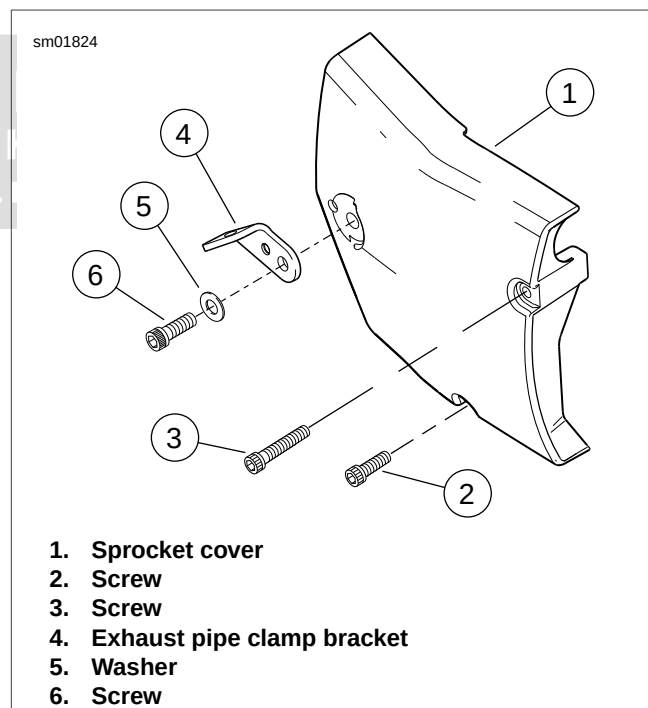
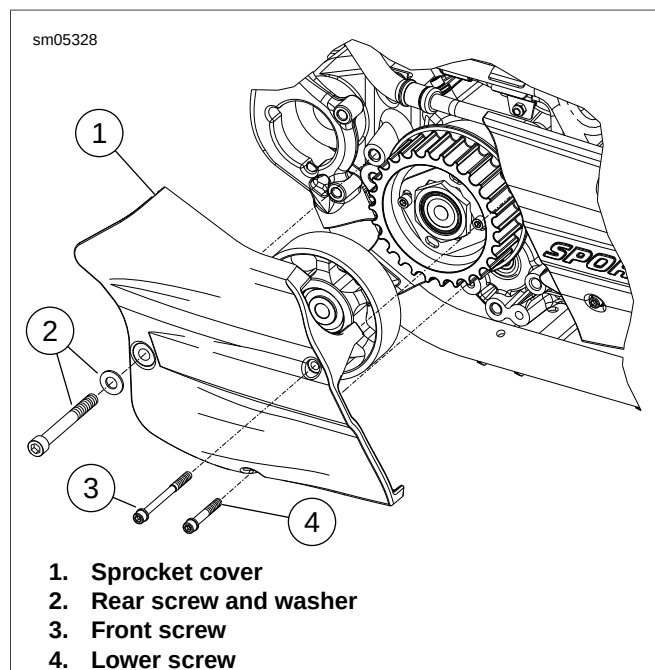

Figure 2-212. Sprocket Cover: XL Models
Figure 2-213. Sprocket Cover: XR Models
- a. **XL models:** see Figure 2-212. Remove screw (6), washer (5) and exhaust pipe clamp bracket (4). Remove two screws (2, 3). Remove sprocket cover (1).
- b. **XR models:** see Figure 2-213. Remove screw and washer (2) and screws (3, 4). Remove sprocket cover (1).
- a. See Figure 2-212. Install sprocket cover (1). Secure with two screws (2, 3). Note that long screw goes in top hole, short screw in bottom hole. Do not tighten screws at this time.
- b. Install exhaust pipe clamp bracket (4), washer (5) and screw (6). Tighten to 30-33 ft-lbs (40.7-44.8 Nm). Now tighten screws (2, 3) to 80-120 **in-lbs** (9.0-13.6 Nm).
- a. See Figure 2-213. Tighten screw (2) to 30-33 ft-lbs (40.7-44.7 Nm).